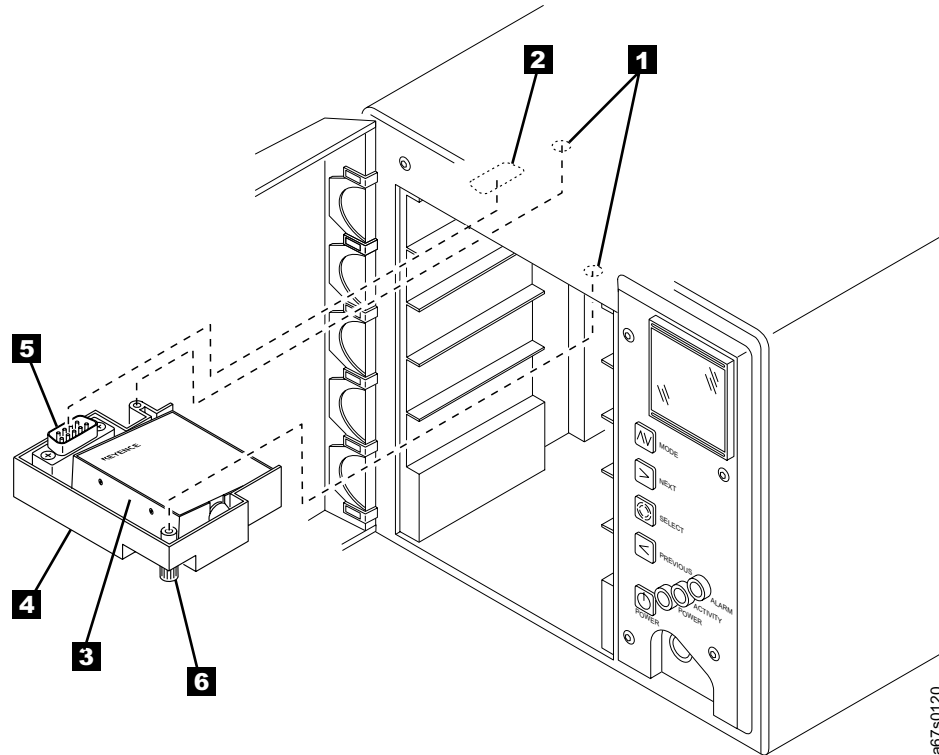

Figure 24. Replacing the bar code reader
6. Loosen the two thumbscrews (see **6** in Figure 24 on page 71) on the bar code reader's mounting bracket **4**.
1. Referring to Figure 24, locate the mounting hole **1** and interface connector **2** on the inside top panel of the autoloader, directly above cartridge storage slot 1.